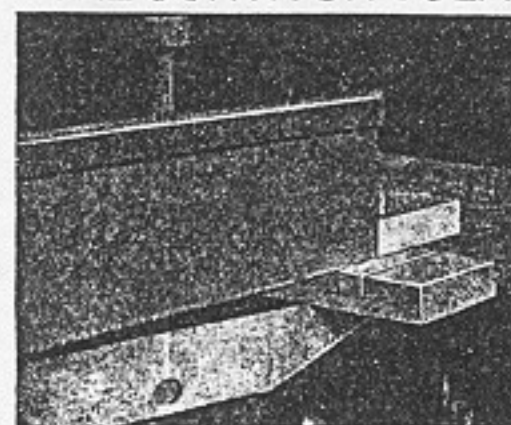

Fig. 73. Block hand-screwed to piece guiding backsaw.
3. The beginner may use a block nailed or clamped to the line as a guide for the backsaw (Fig. 73).